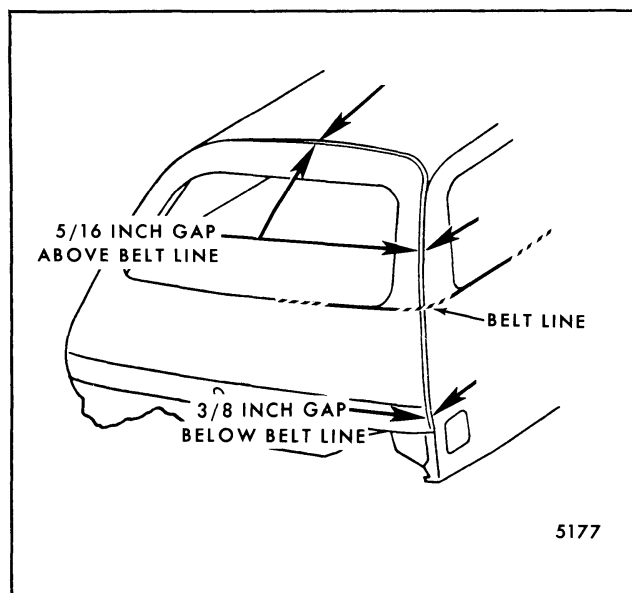

Fig. 7-74-Tail Gate Alignment
8. Check tail gate position in opening. If further adjustment is required, repeat preceding steps (Fig. 7-74).
4. Securely tighten striker bolt and close gate to check alignment. Repeat preceding steps if required (Fig. 7-74).